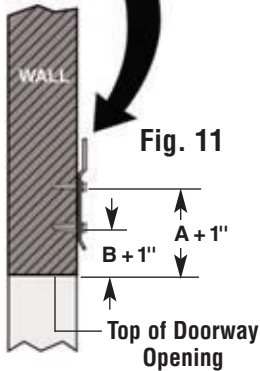

Fig. 11
3. Temporarily place the bottom half of the mounting plate into position under the top half of the mount plate that is already attached to the air curtain. Measure from the bottom of the air curtain to the two (2) rows (A & B) of mounting holes. (See Fig. 11)